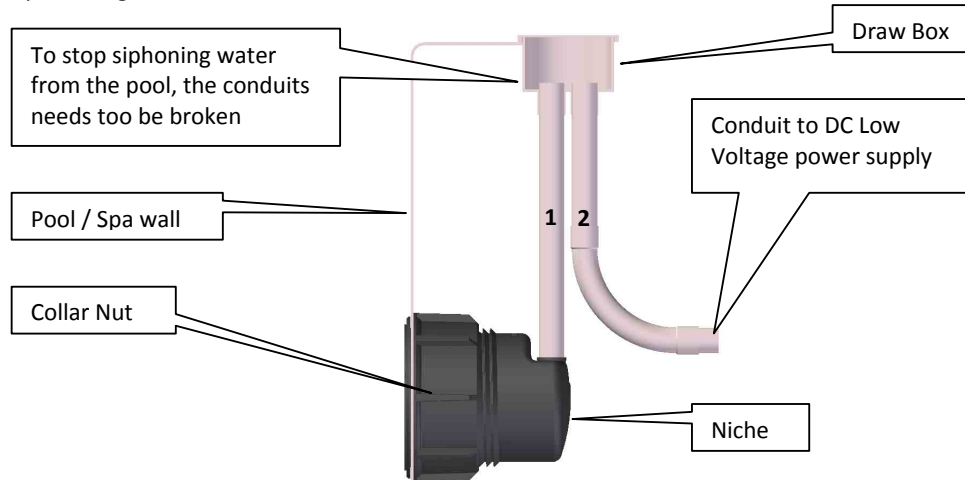

Fig. 17
13. Prepare a length of 25mm electrical conduit "Tube No: 1" (Fig. 17) to be glued into the top of the niche gland adaptor using PVC solvent cement. The conduit should be extended to above the water level of the pool.
14. Return below ground another tube "Tube No: 2" (Fig. 17) to the light DC Low Voltage power supply. Ensure you have inserted draw wire into "Tube No: 2" to feed the cable from the Niche interior. Ensure you left up to 1m of cable between Niche and Light (Fig. 18) before tightening the cable gland. Surplus of the cable will allow for future service above the pool water level.